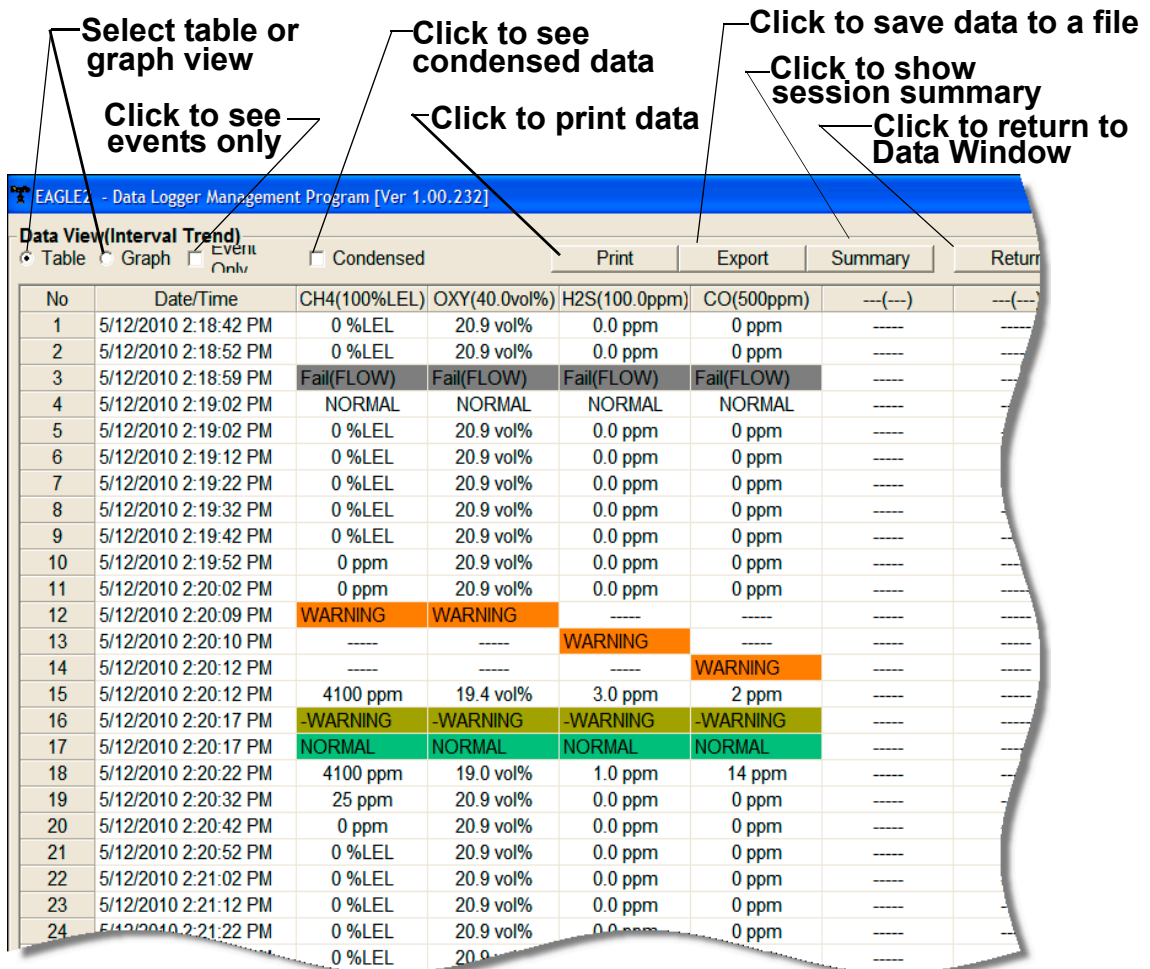

Figure 26: Interval Trend Data in Table Format
7. Interval trend data can be viewed in either table or graph format by selecting the Table or Graph selection buttons. The example below in Figure 26 is shown in table format.